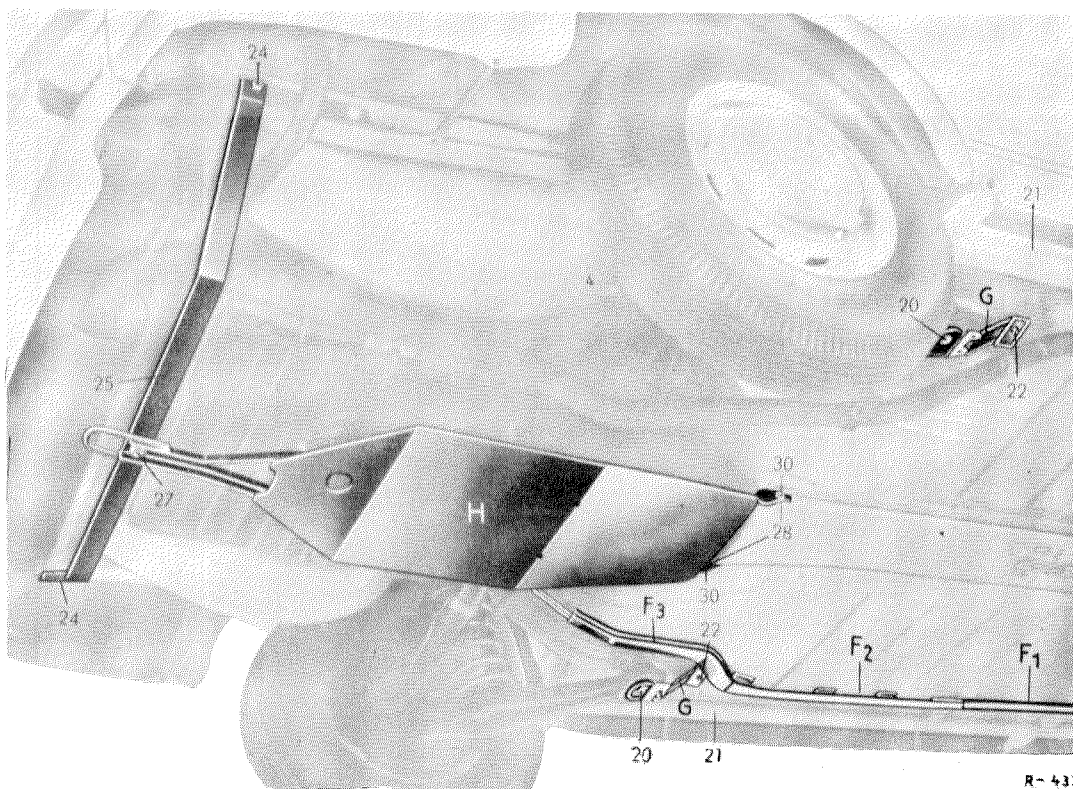

Fig. 52 — 1/3
2. Insert the guard plates (G), install the castellated shoulder nuts (20) again and position the guard plates (G) so that they are parallel to the side member halves (21) (see Fig. 52 — 1/3).
3. With the guard plates in this position, mark out on the chassis base panel the hole for the screw (22) on the guard plate, drill the hole 4.1 mm diameter and deburr it (Fig. 52 — 1/3).
4. Drill a 4.1 mm diameter hole at the center of each of the reinforcing plates (23) (see Fig. 52 — 1/1).
7. If the first version of the guard plates (G) is being installed, they should be fixed with a hexagon screw (22) M 8 × 22 and a lock washer (see Fig. 52 — 1/3) in each plate. If the recent version is being installed, they should be fixed with two hexagon tapping screws S 6.3 × 13 DIN 7976 and lock washers B 6 DIN 137.
8. Screw on the castellated shoulder nuts (20), tighten to a torque of 8 mkg and lock with splints 3 × 25.
1. Unscrew the rear fixing screws (24) of the two bumper brackets (see Fig. 52 — 1/3) and screw the supporting sling (25) to the chassis base panel with two new hexagon screws (24) M 10 × 30 and lock washers.
2. Screw the guard plate (H), from underneath, to the supporting sling (25) with the hexagon screw (27) M 10 × 20 and nut and lock washer (see Fig. 52 — 1/3). Adjust the guard plate to fit, if necessary tapping the two lugs (28) at the front of the guard plate (H) so that they fit against the channel.
3. When fitting the guard plate (H), raise it so that there is just 5 — 6 mm space between the bottom of the transmission channel and the plate. With the plate in this position, drill in the side of the transmission tunnel the 11 mm diameter holes necessary for the hexagon screws (30) and deburr them (see Fig. 52 — 1/3).
4. Screw the guard plate (H) — i. e., the lugs (28) to the channel with the two hexagon screws (30) M 10 × 20 with nuts and lock washers.
5. Tighten up the fixing screws (24) and (27) at the supporting sling (25).
Note: A towing hook is welded to the guard plate for the rear axle and this may safely be used for towing other vehicles (see Fig. 52 — 1/3).
1. Cut open the rubber grommet J₁, fit it on the flexible drive shaft and insert it in the channel at the outer face of the fork support (see Fig. 52 — 1/1).